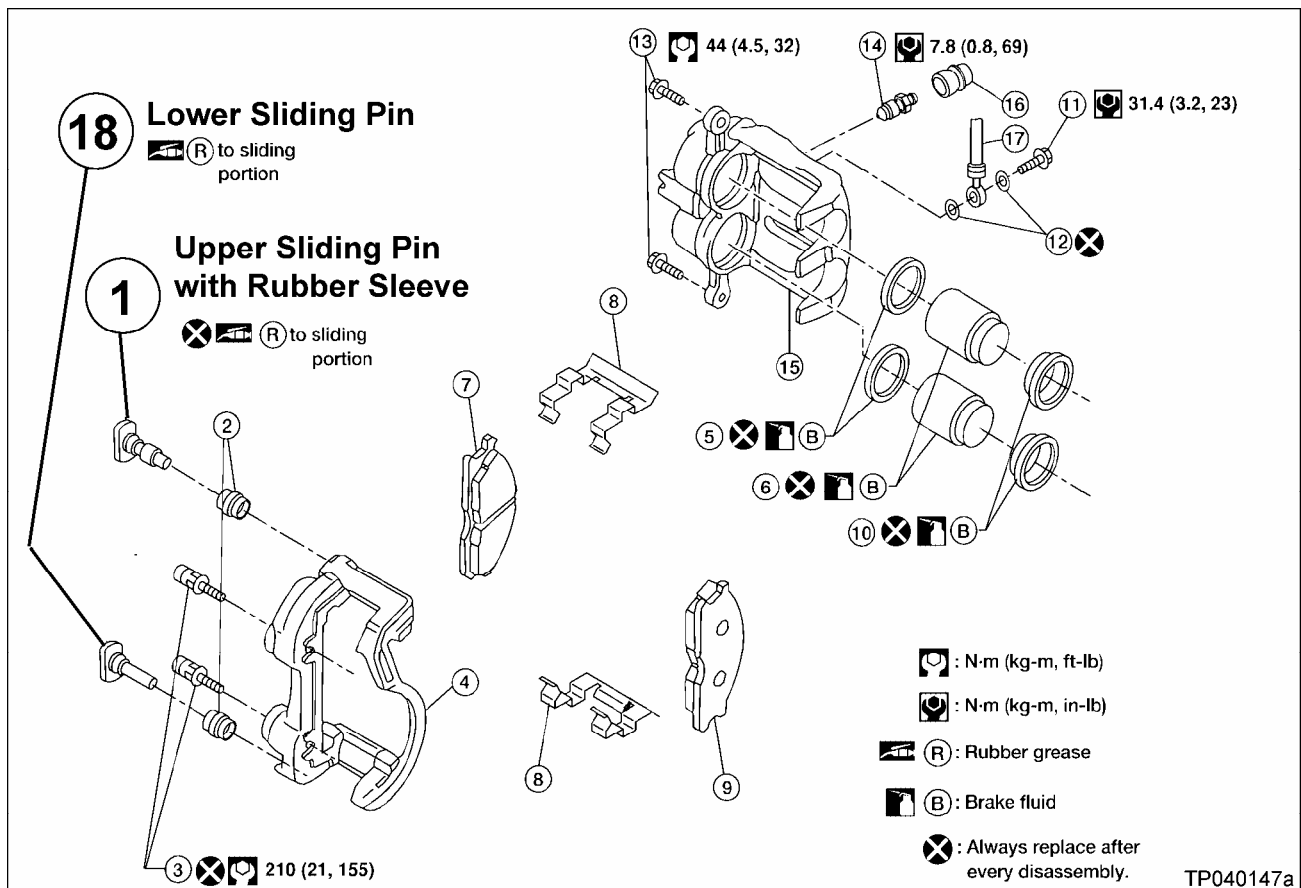

Figure 6
7. Install the new Sliding Pin Kits (see Figure 6).